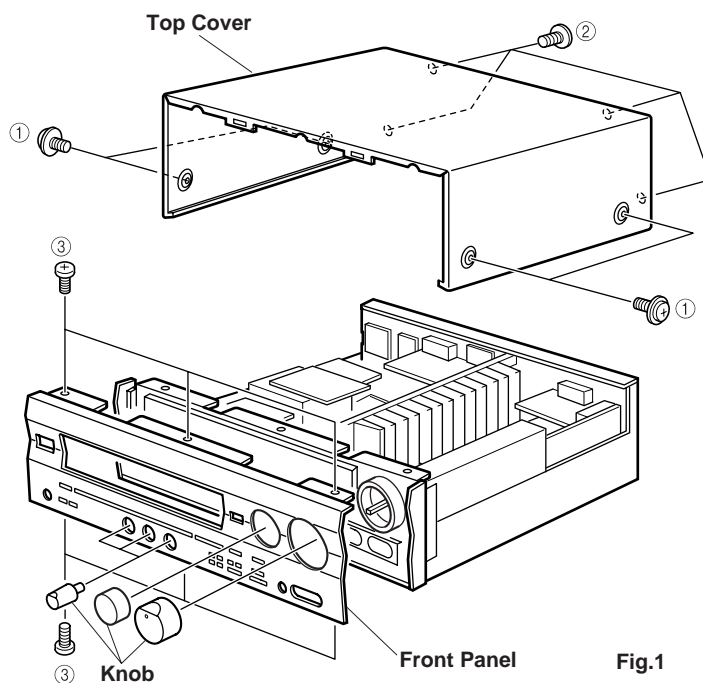

Fig.1
Remove 4 screws (①) and 4 screws (②) in Fig. 1.
- Remove 6 screws (③) in Fig. 1.